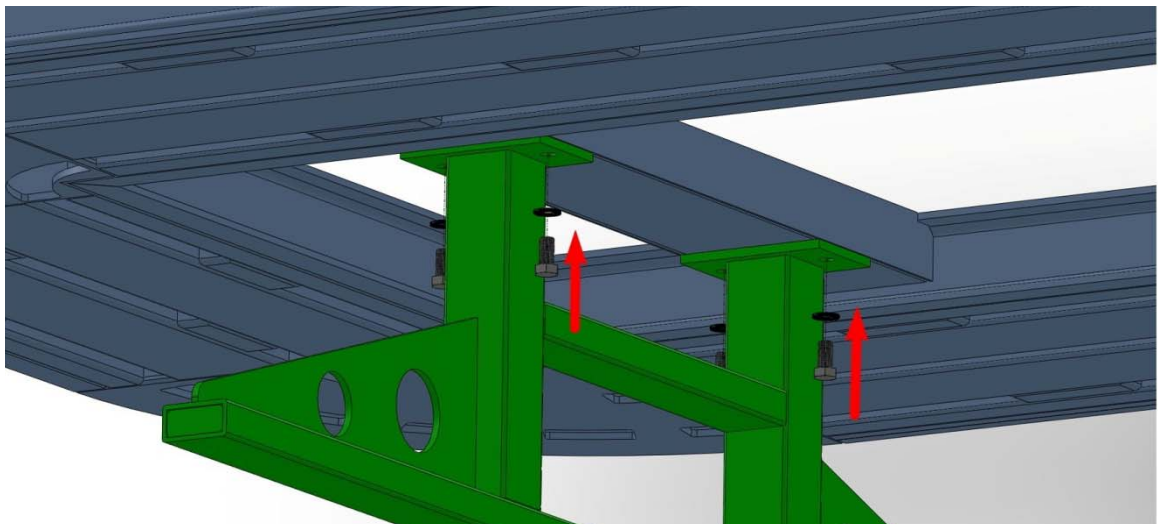

Figure 6.2
6.1.2 Fixing support installation: Lift the platform over 500mm, install the fixed support with four bolts. See figure 6.2